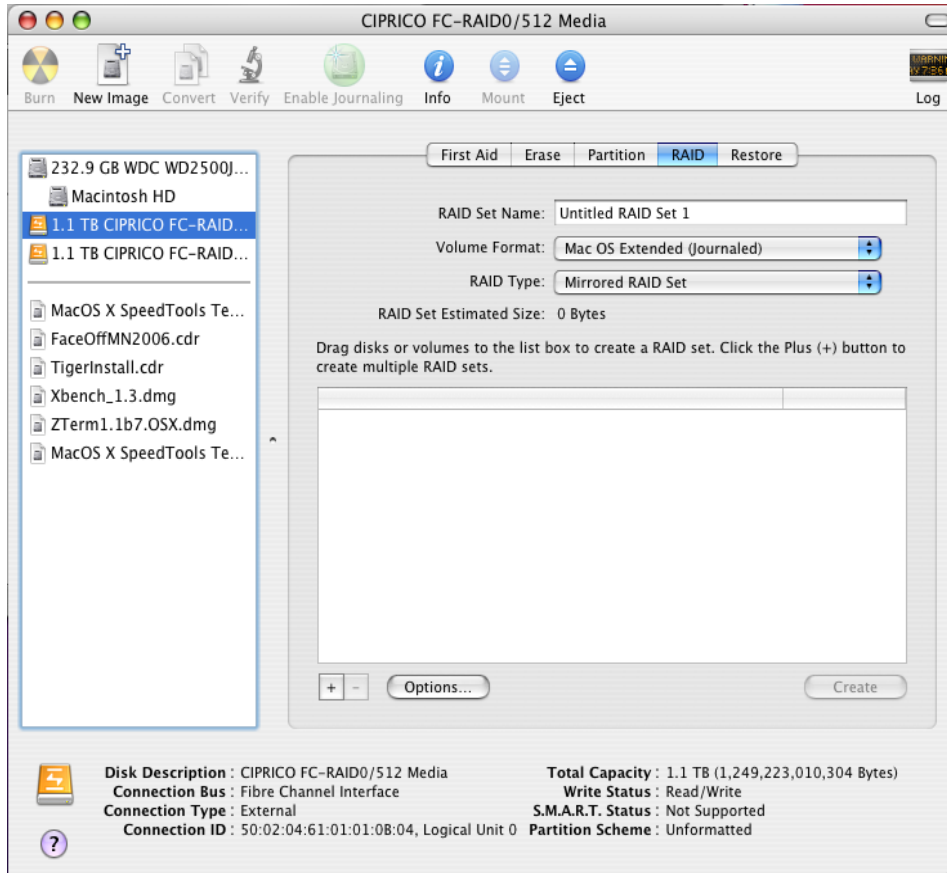

FIGURE 6-10. The “RAID” Tab of the Apple Disk Utility Screen, Showing the Disk Icon.
5. Click on the “RAID” tab at the upper section of the screen. See Figure 6-10.